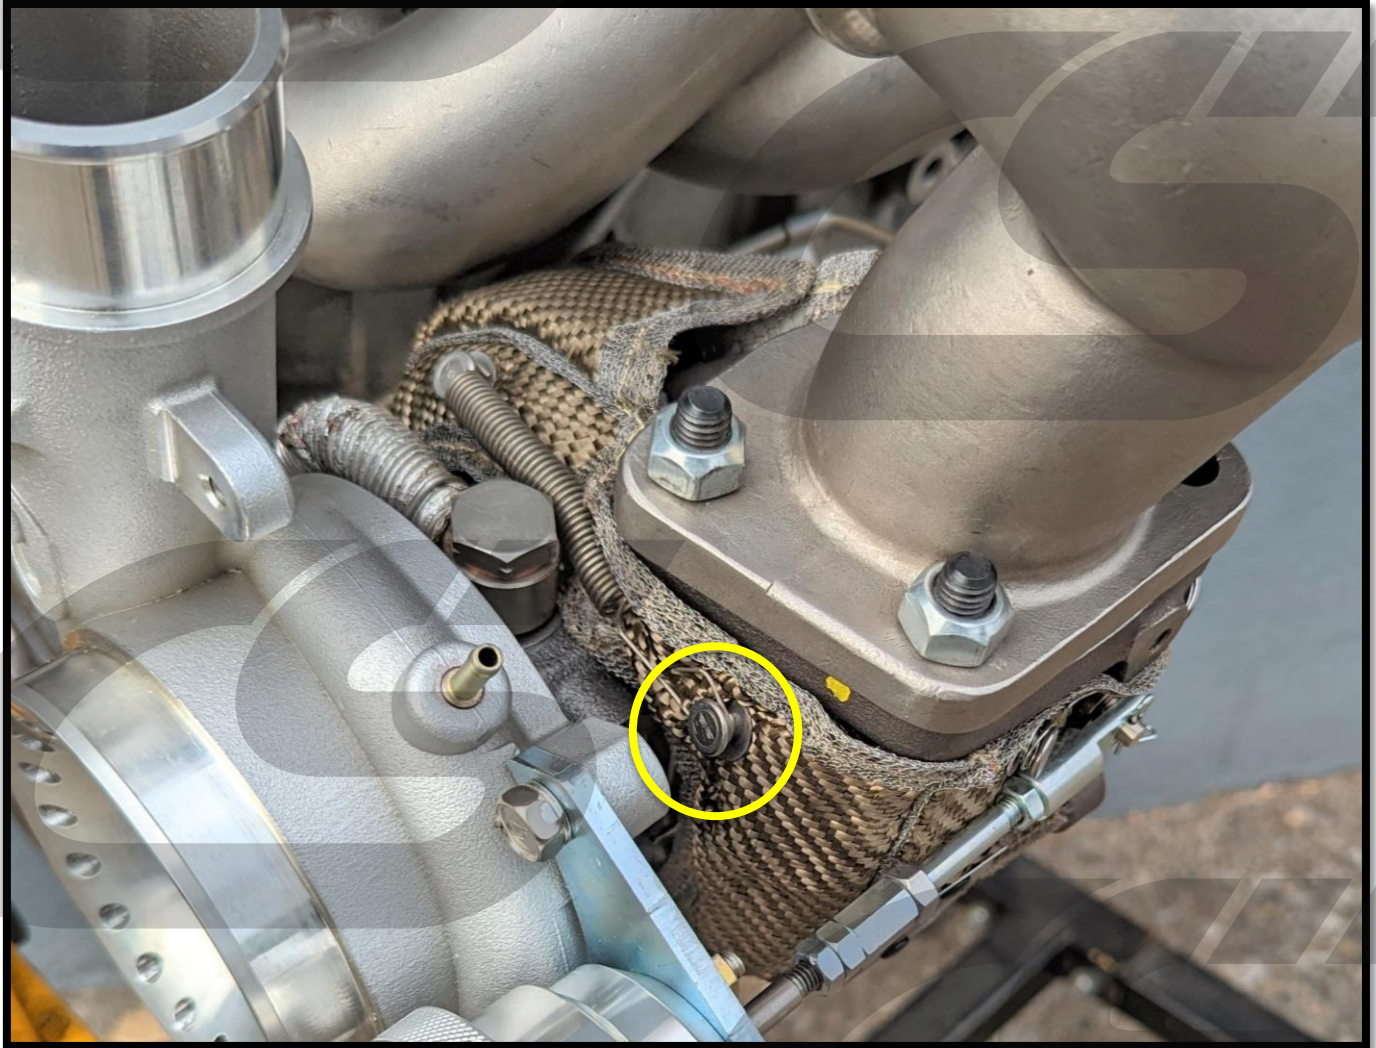

Figure 2b
- b) Attach the spring shown in **Figure 2b** to the button rivet circled in yellow by using needle nose pliers to grab the loose end of the spring and pulling it onto the rivet.